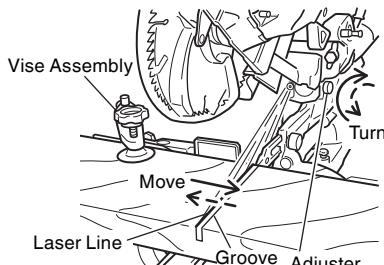

Fig. 20
(1) Light up the laser marker and make a groove of about $3/16"$ (5mm) deep on the workpiece that is about $25/32"$ (20mm) in height and $5-29/32"(150mm)$ in width. Hold the grooved workpiece by vise as it is and do not move it. For grooving work, refer to "11.Groove cutting procedures" on page 24.
(2) Then, turn the adjuster and shift the laser line. (If you turn the adjuster clockwise, the laser line will shift to the right and if you turn it counterclockwise, the laser line will shift to the left.) When you work with the ink line aligned with the left side of the saw blade, align the laser line with the left end of the groove. (Fig. 20) When you align it with the right side of the saw blade, align the laser line with the right side of the groove.
(3) After adjusting the position of the laser line, draw a right-angle ink line on the workpiece and align the ink line with the laser line. When aligning the ink line, slide the workpiece little by little and secure it by vise at a position where the laser line overlaps with the ink line. Work on the grooving again and check the position of the laser line. If you wish to change the laser line's position, make adjustments again following the steps from (1) to (3).